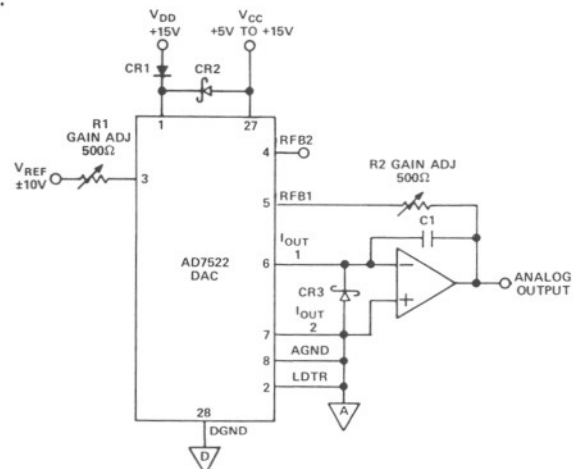
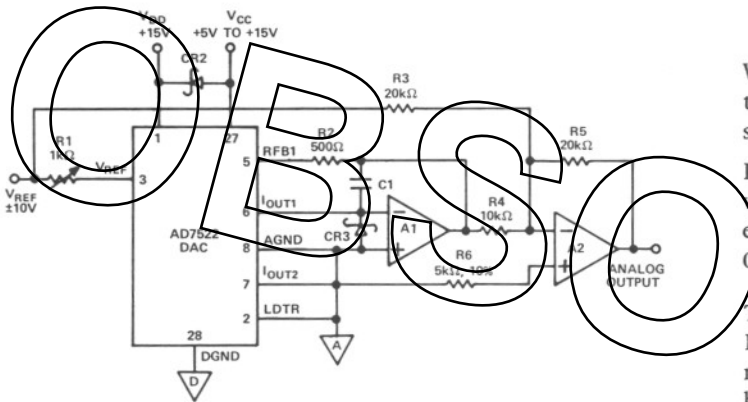

Figure 3. Unipolar Binary Operation (2-Quadrant Multiplication)
Figure 4. Bipolar Operation
(Note: Protection Schottky CR3 in Figure 3 and Figure 4 is not required when using TRI-FET amps such as the AD542 or AD544).
Figure 3 shows the analog circuit connections required for unipolar operation. The input code/output voltage relationship is shown in Table 1.
Figure 4 shows the analog circuit connections required for bipolar operation. The input code/output voltage relationship is shown in Table II.
1. CR1 and CR2 on Figures 3 and 4 protect the AD7522 against latch-up V_{CC} exceeds V_{DD} , and may be omitted if V_{DD} and V_{CC} are driven from the same voltage.
2. Diode CR3 on Figure 3 and Figure 4 clamps the amplifier junction to $-300mV$ if it attempts to swing negative during power up or power down. The input structures of some high-speed op amps can supply substantial current under the transient conditions encountered during power sequencing. It is recommended that the PC layout be able to accommodate the diodes.